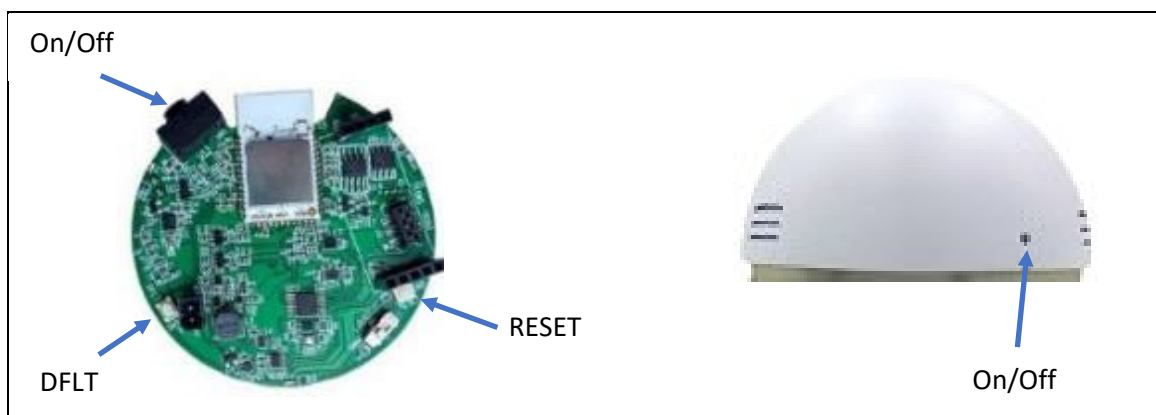

Fig. 3 – Positioning keys on board type sensors PRMPv042x.
5. Holding down the DFLT key (\$Fig. 3), press the RESET button; then release the RESET button and then the DFLT button.
3. Holding down the DFLT key (§Fig. 3), press the RESET button; then release the RESET button and then the DFLT button.